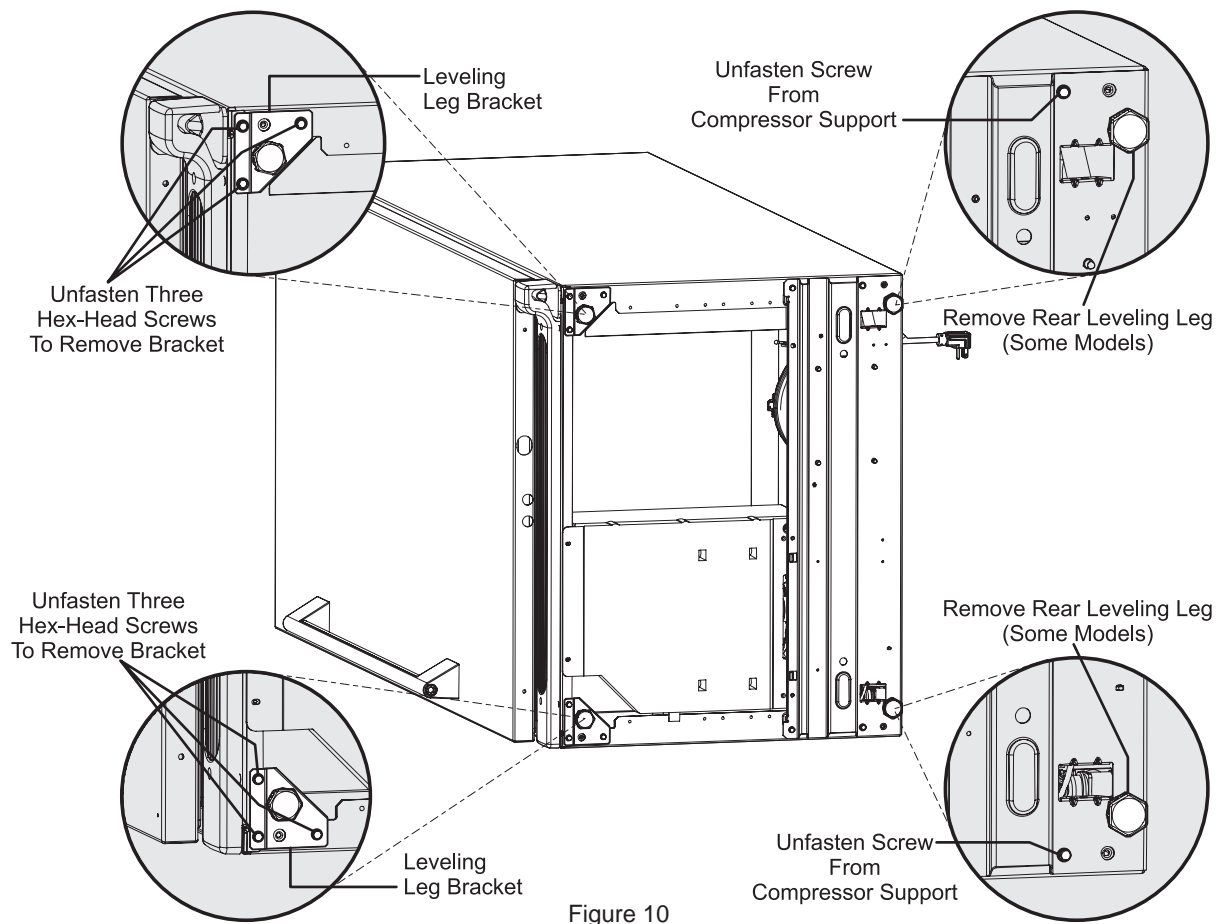

Figure 10
- Remove the two front leg leveler brackets, (2) compressor support screws and rear leg levelers, if applicable, as shown in Figure 10.